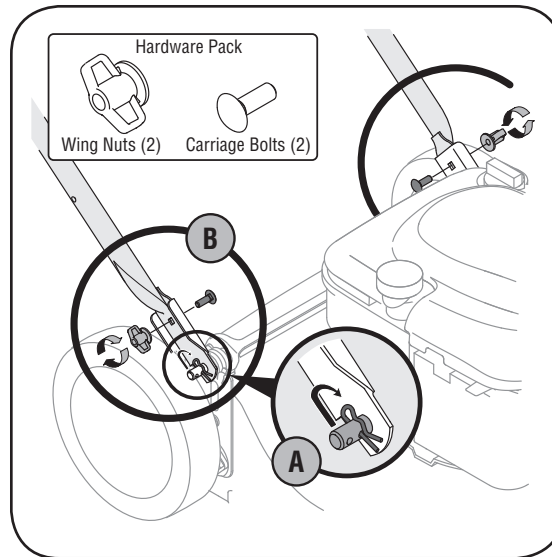

Figure 3-2: Secure lower handle to mounting brackets.
- a. Remove hairpin clip from this hole. Using a pair of pliers, insert hairpin clip into the hole on pin closest to the bracket, Figure 3-2. Repeat on other side.
- b. Insert a carriage bolt from the hardware pack into the upper hole on the handle mounting bracket, Figure 3-2. Secure with one plastic wing nut, also included in the hardware pack. Repeat on other side.